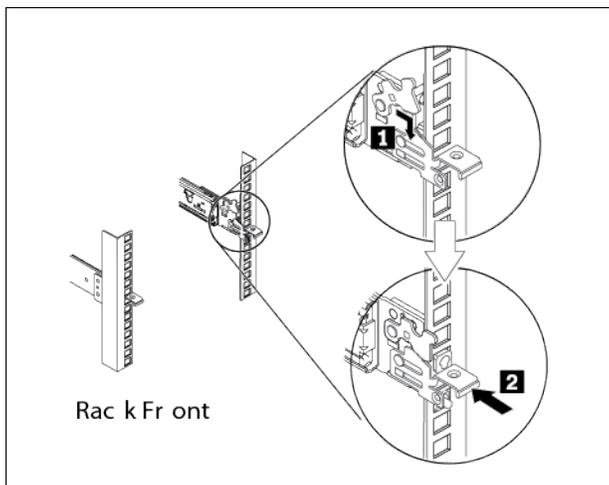

Figure 3: Install the Front End of the Slide Rails
- 3 Install the front end of the slide rails, as shown in Figure 3: Install the Front End of the Slide Rails on page 9: